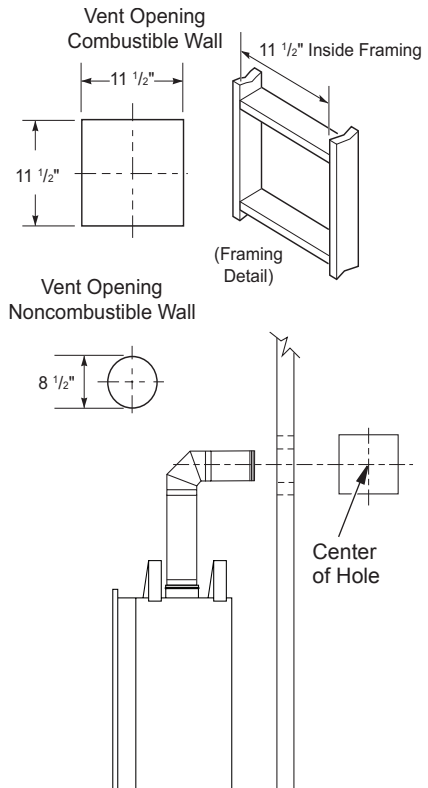

Figure 9 - Vent Opening Requirements
Center of hole should line up with center line of horizontal vent pipe. Mark wall for an $11 \frac{1}{2}$ " x $11 \frac{1}{2}$ " square hole. Cut and frame square hole in exterior wall where vent will be terminated. If wall being penetrated is constructed of noncombustible material, such as masonry block or concrete, a $8 \frac{1}{2}$ " hole with zero clearance is acceptable (see Figure 9).
3. Cut a hole in the roof using locating hole as a center point. (Cover any exposed open vent pipes before cutting hole in roof.) The 11 1/2" x 11 1/2" hole must be measured on the horizontal; actual length may be larger depending on pitch of roof. There must be a 1" clearance from vent pipe to combustible materials. Frame opening as shown in Figure 9, page 10.